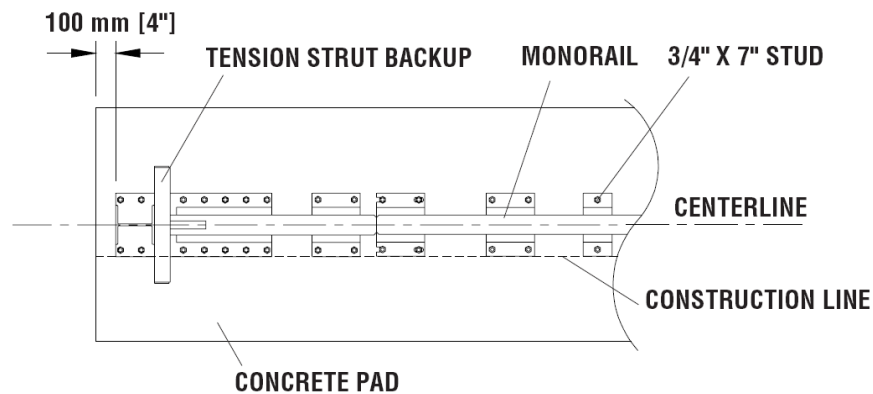

Figure 21
B) Monorail Assembly for Tension Strut Backup (Figure 21)
Locate Monorail on foundation with side of Monorail on the construction line and rear edge of Backup foot 4" forward of edge of foundation (Figure 21).